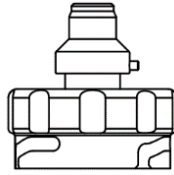

Figure 7.2
When cleaning, disinfecting and sterilizing, connect the waterproof cover to the electrical connector of the endoscope to prevent water from entering the connector. When conducting a water leakage test, the ventilation interface of the waterproof cover must be connected to the flexible endoscope's leak detector (as shown in Figure 7.2).
1. Confirm that the inner wall of the waterproof cover is completely dry and free of adhering debris (as shown in Figure 7.2). If there is water or debris inside the waterproof cover, please dry it with a dry lint-free cloth.